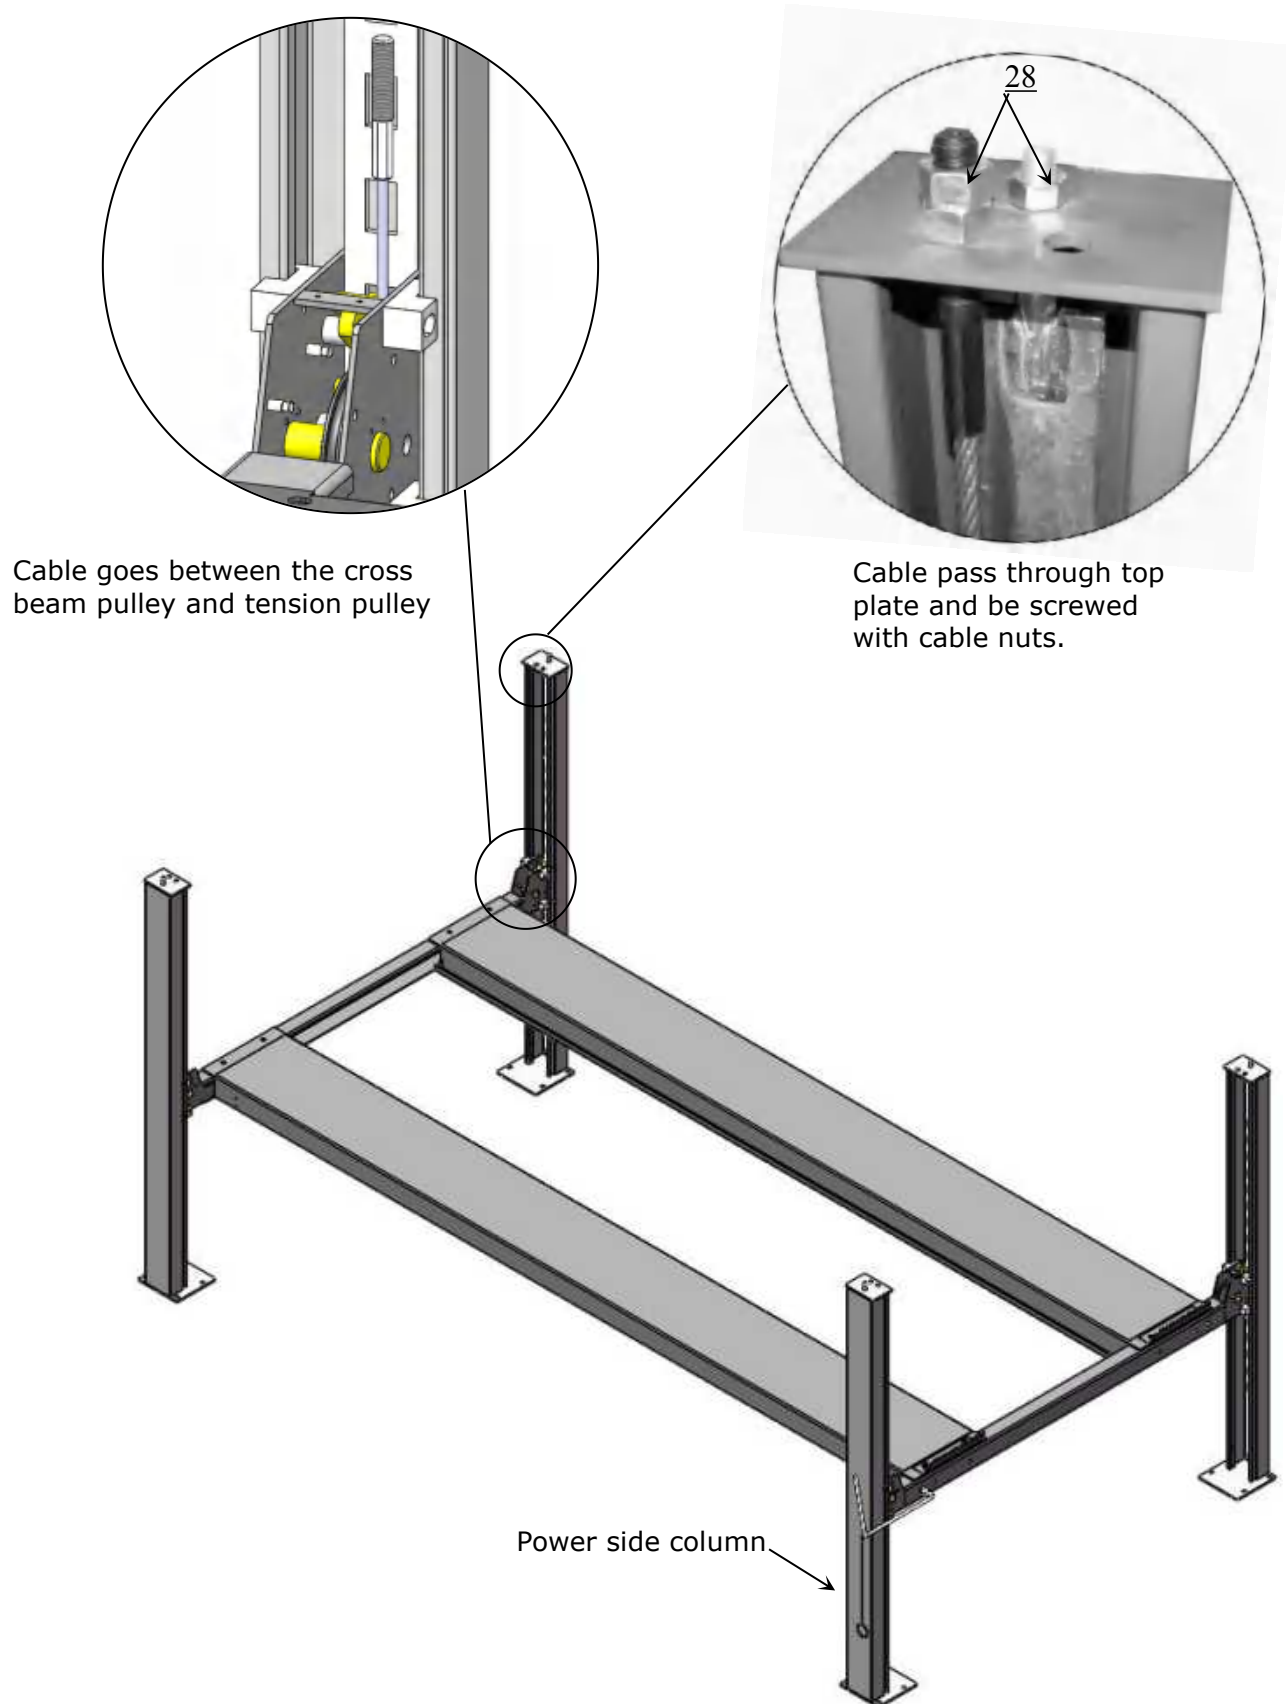

Fig. 27
2. Pass The cables through the cross beam to top plate of columns and screw with cable nuts (See Fig. 27).